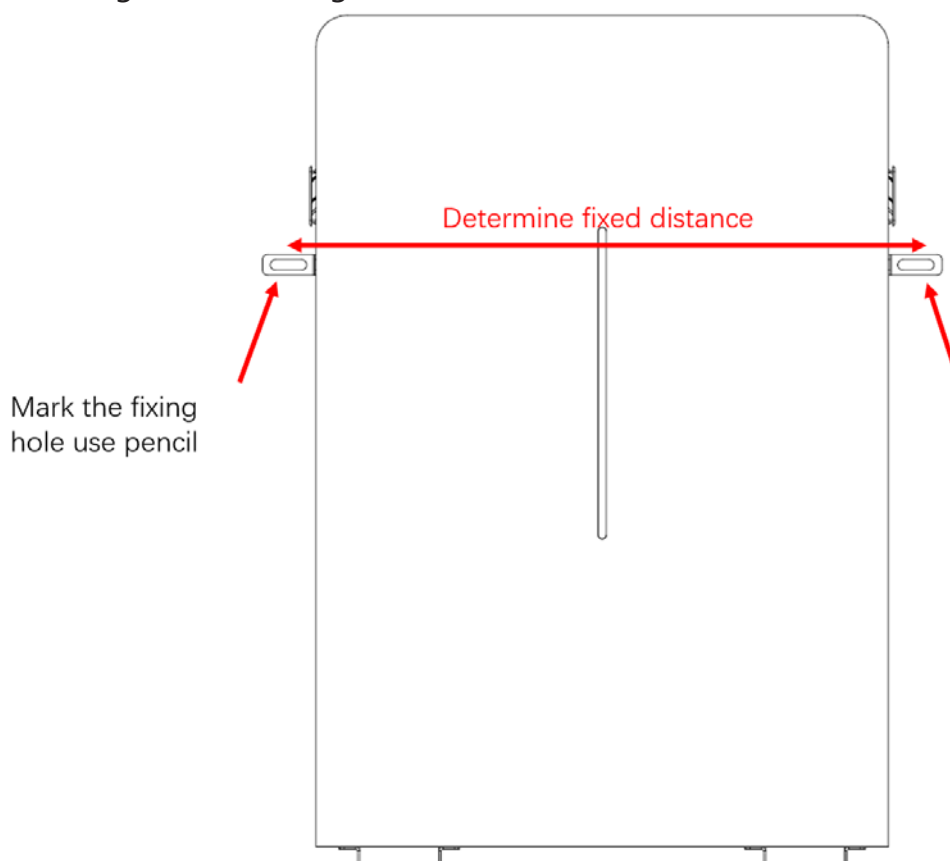

Figure 5-5
b) Stand the battery on the side of the wall, mark the location of the fixing hole, Choose the recommend drill head (as shown in below picture) to drill 2 holes on the wall, 100-110mm deep, as shown in Figure 5-2 and Figure 5-5.